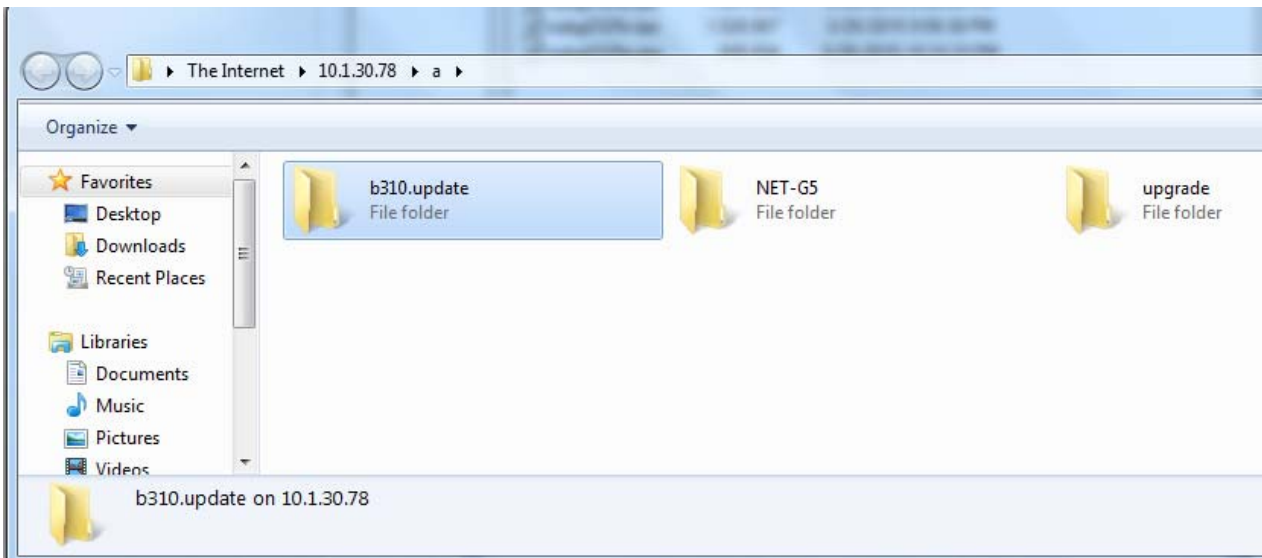

Figure 16: Delete the Contents from the b310.update folder
4. Open the **b310.update** folder in Windows Explorer, and delete any content in the folder (Figure 16).